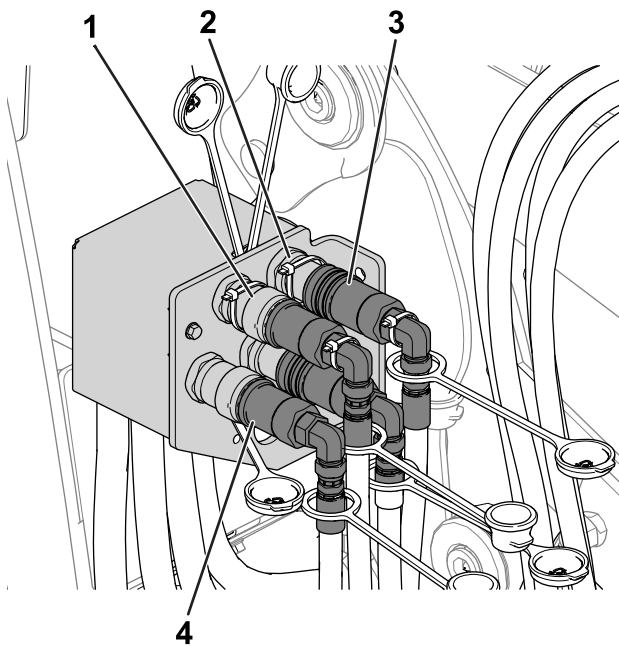

Figure 52
5. Perform the following steps to connect the hydraulic couplers (Figure 52):